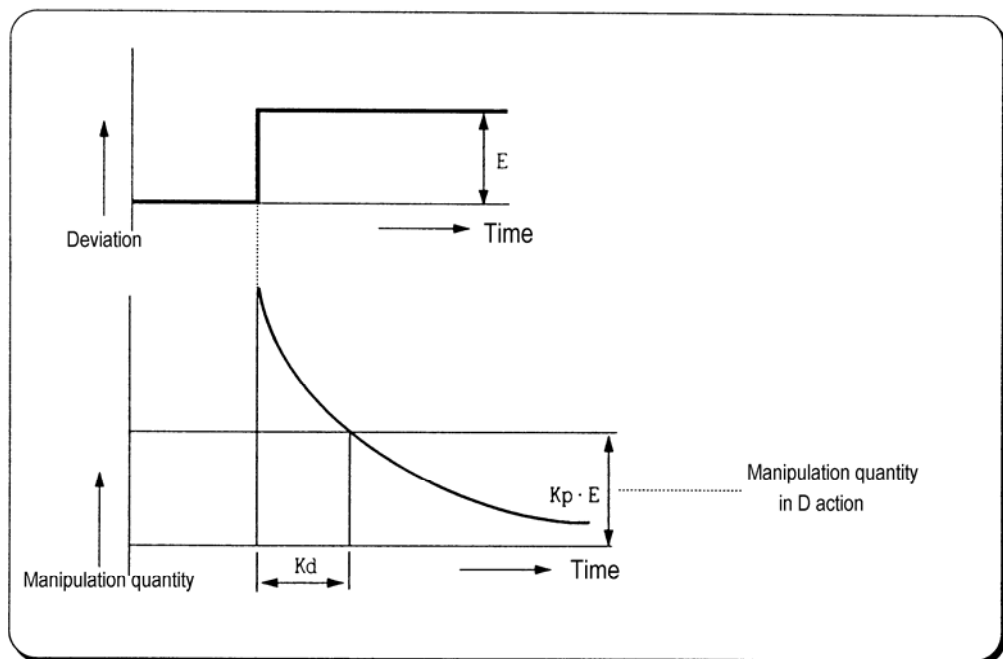

Fig. 2-7 Derivative action with a constant deviation
- (c) The D action when a constant deviation occurred is shown as Fig. 2.7.